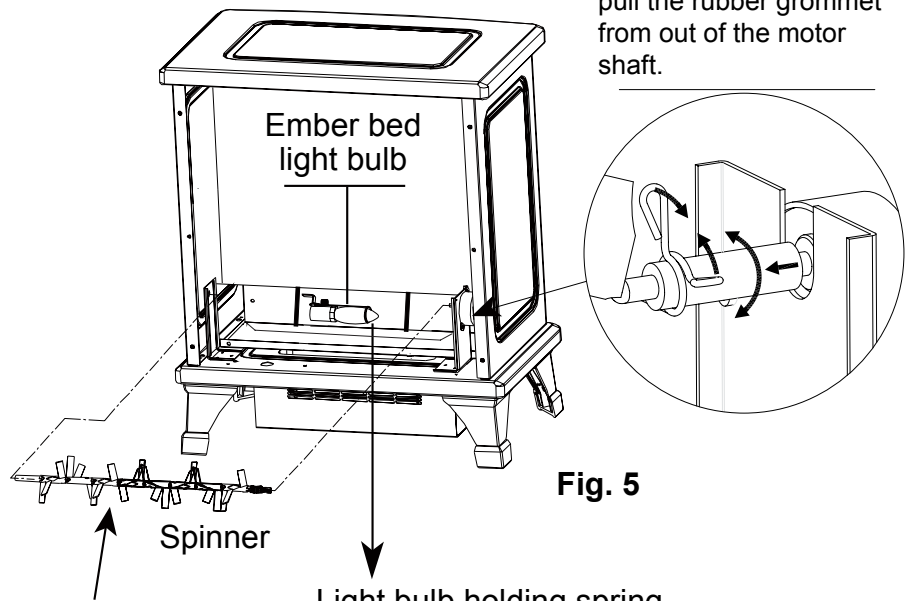

Fig. 5
4. Pinch the spring clip to loosen the spindle, and gently turn and pull the rubber grommet out of the spinner motor shaft. (see Fig.5).
5. Pull the spinner out of the bracket.(see Fig 5).